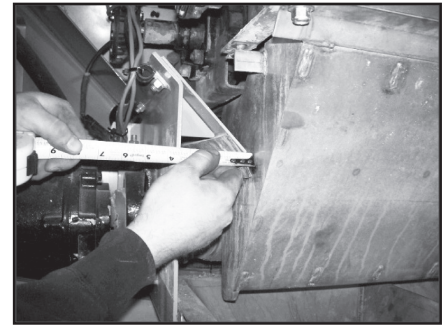

Figure 16
5. Figure 16 - Verify Lower Divider is square by measuring from each side to main bin's chain shields. Make sure distances are equal.